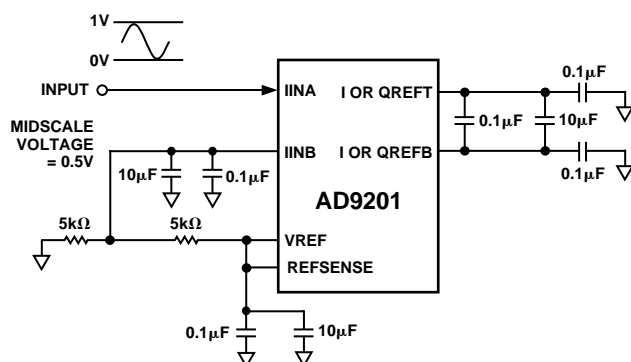

Figure 17. Example Configuration for 0 V–1 V Single-Ended Input Signal
**EXAMPLE:** For a single-ended input range from 0 V to 1 V applied to IINA, we would configure the converter for a 1 V reference (See Figure 17) and apply 0.5 V to IINB.